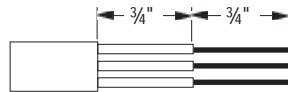

Fig. 1
- Strip cable jacket and conductor insulation as shown in Fig. 1.